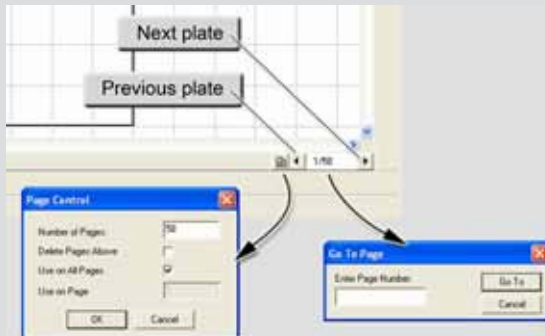

Fig 48 - If there are additional plates of badges, then use the **Paging Tool** to browse each plate.
2. If there are more badges than will fit on a single plate, the **Paging Tool** can be used to view the remaining badges. Click the **Forward** and **Back** navigation buttons to access the other badges. (Fig. 48)